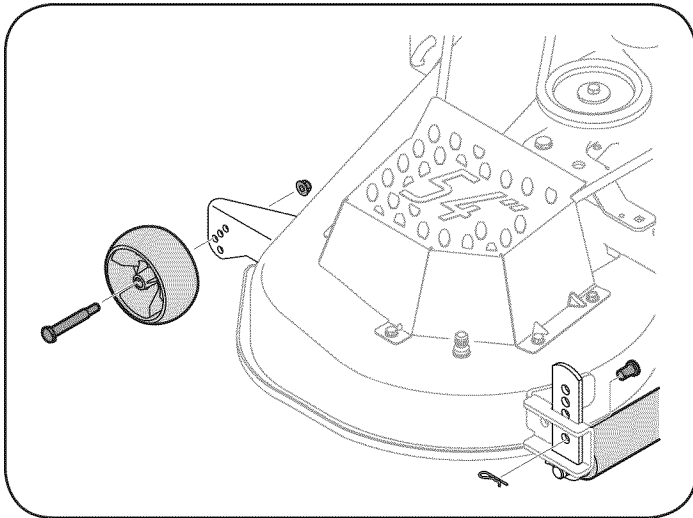

Figure 5
- b. Remove the front gauge wheels by removing the lock nuts and shoulder screws which secure them to the deck. See Figure 5.
- e. Remove the clevis pins and hairpin clips from the deck roller brackets on the left and right sides of the cutting deck. See Figure 5.